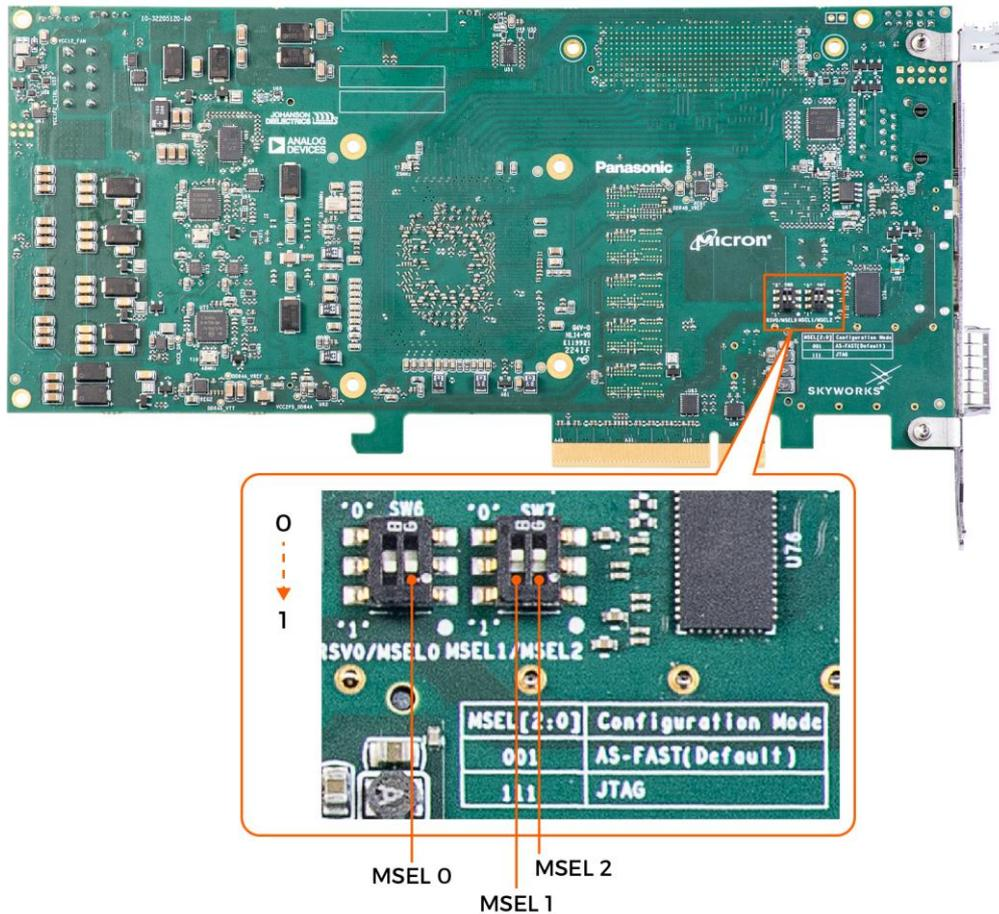

Figure 2-3 The MSEL pin setting
As shown in **Figure 2-3**, the mode select pin of the FPGA on the Agilex 7 FPGA Starter Kit has been set to **Active Serial (AS) Fast mode** using resistors. Thus, the Agilex 7 FPGA Starter Kit supports the following configuration modes: